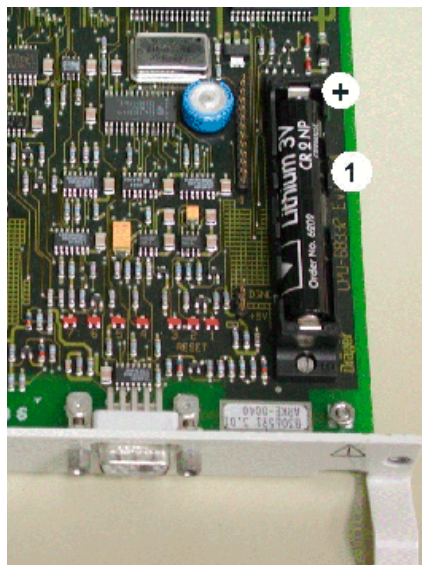

Figure 6 Detail of the CPU PCB
7. Remove the spent lithium battery (Figure 6/1) from the battery holder and dispose of according to local waste disposal regulations.
8. Push the lithium battery into the battery holder (see Figure 6), making sure the polarity is correct.